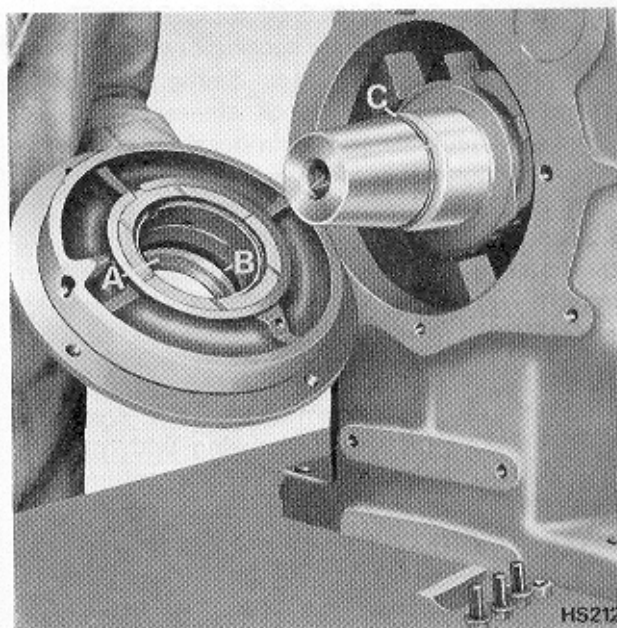

Fig. 62 Main Bearing Housing
- (e) Remove main bearing housing taking care to retain any shims which may be fitted; remove split thrust washer; slide off thrower ring. (Fig. 62).